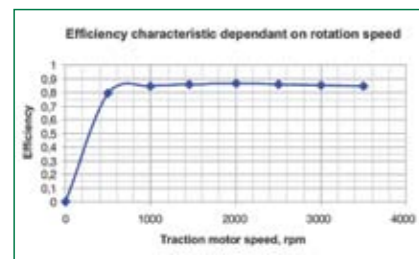

Figure 4: Dependence of the drive-train efficiency on the traction AM rotation speed.
- Possibility of operation with high efficiency in the overall tractor speed range (see Fig.4)
shaft) dependant on the AM rotation speed at maximum torque and maximum power is given in Figure 4.